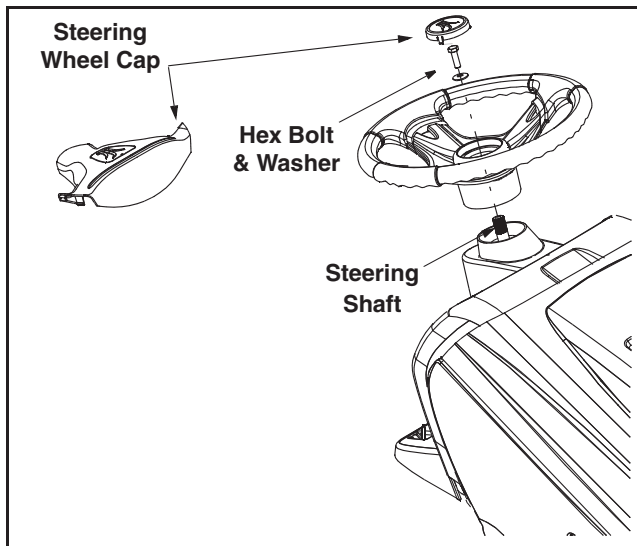

Figure 3
**NOTE:** There are two different styles of steering wheel cap. See Figure 3. **Styles vary by model.**
- Reinsert the steering wheel cap in the center of the steering wheel. Refer to Figure 3.